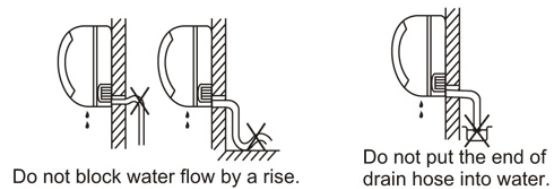

Fig.7
- A. Run the drain hose sloping downward. Do not install the drain hose as illustrated in Fig.7.